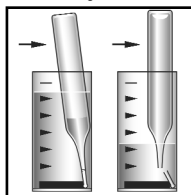

Figure 2
2. Place the CHEMet ampoule, tip first, into the sample cup. Snap the tip. The ampoule will fill leaving a bubble for mixing (fig 2).